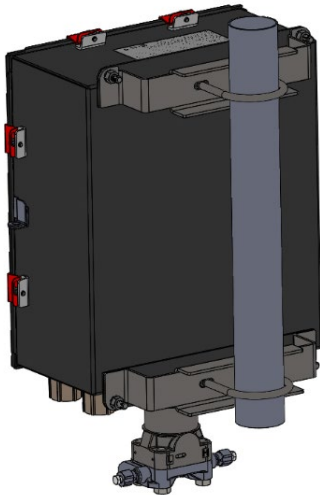

Figure 7. FB2100 (Aluminum Enclosure) on Pipe Mount
- 2. The FB2100 mounts on a two-inch pipe or pole. See Figure 7.